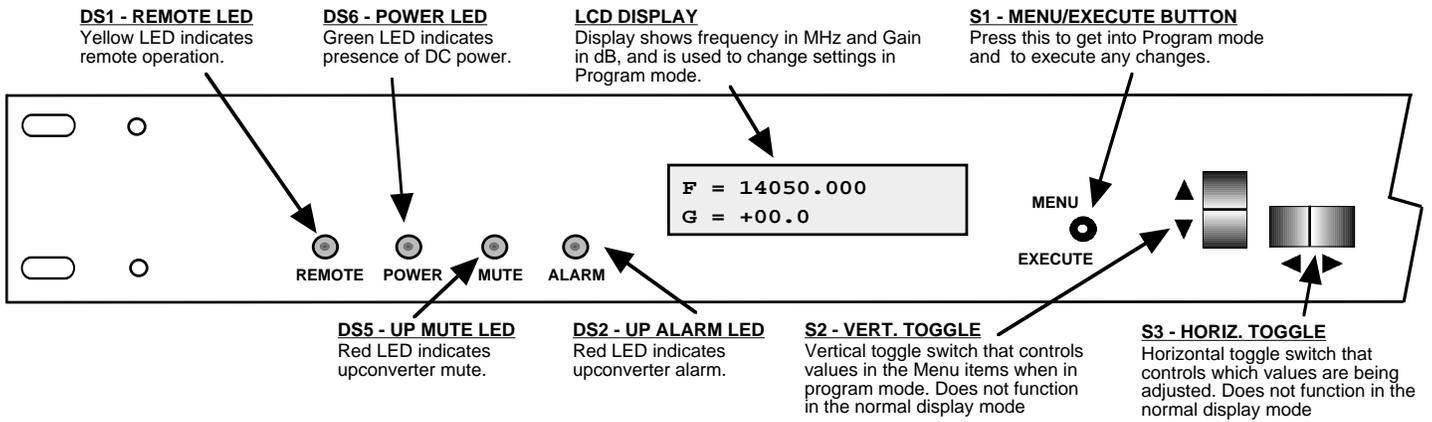

FIGURE 2.3 2015-146 Front Panel Controls and Indicators
2.3 Front Panel Controls and Indicators - Figure 2.3 shows the front panel controls and indicators.
7. Be sure DS6 (green, DC Power) is on and DS2 (red, Alarm) is off (Figure 2.3).